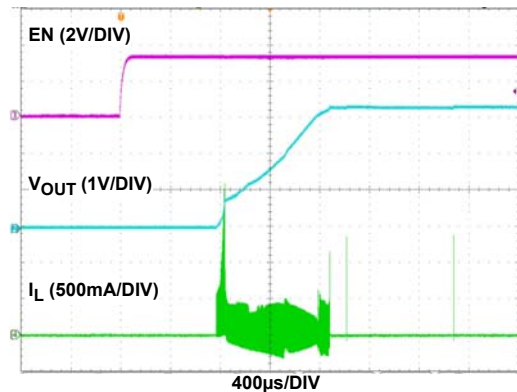

FIGURE 2. START-UP WITH $V_{IN} = 3.6\text{V}$ and $V_{OUT} = 3.3\text{V}$, NO LOAD
Refer to the following Quick Setup Guide to configure and power up the board for proper operation. During the power on process, the expected waveforms are shown in Figures 2 and 3.
7. Monitor the output voltage start-up sequence on the scope. The waveforms will look similar to that shown in Figures 2 and 3.